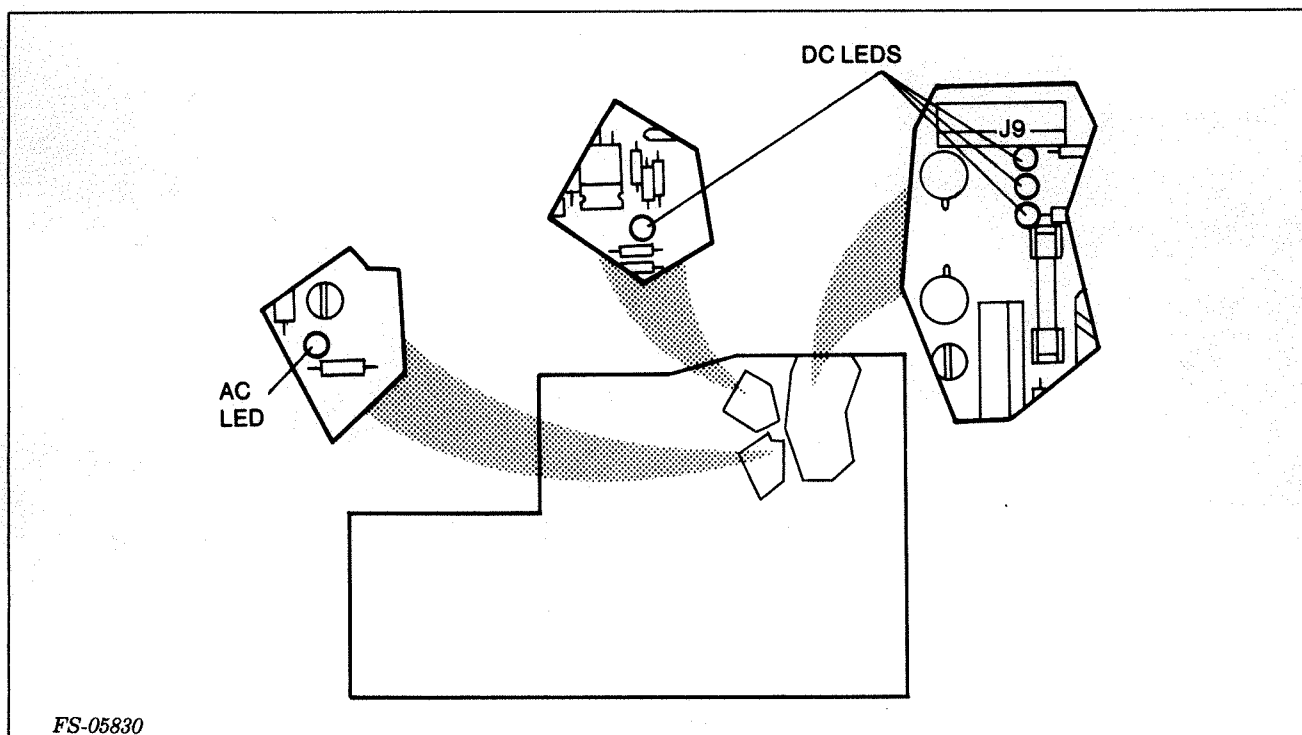

Figure 4-3. Power Supply PCB LED Locations
7. The power supply PCB in the disk drive has five LEDs. See Figure 4-3. When the power switch is ON, all five LEDs light. Table 4-1 lists the voltage requirements for the J1 connector on the power supply PCB.